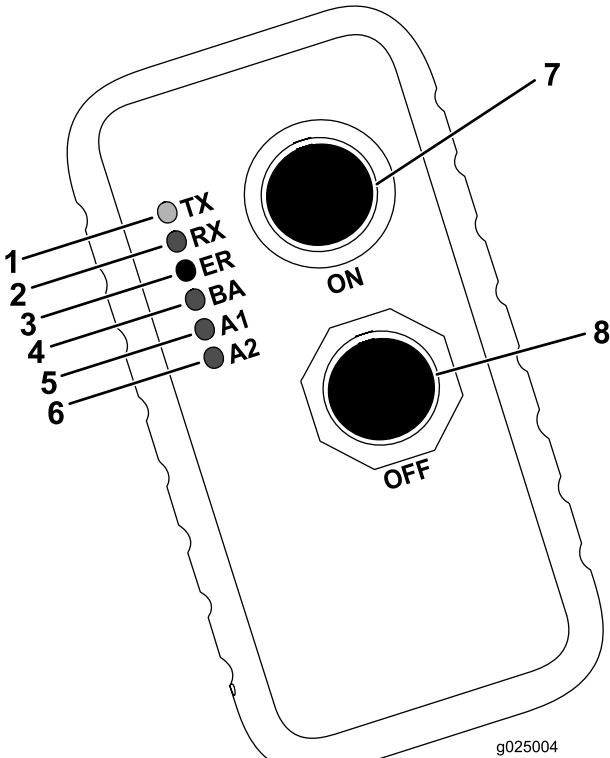

Figure 59
The following table lists the various states of the indicator lights on the handheld transmitter (Figure 59) and their meanings:
4. Simultaneously press and hold the On and Off buttons (Figure 59).
5. Continuously hold both On and Off buttons until the green transmit (TX) indicator light begins to flash (Figure 59).
6. Turn the machine on while continuing to hold On and Off buttons (Figure 59).
7. Release the On and Off buttons (Figure 59).